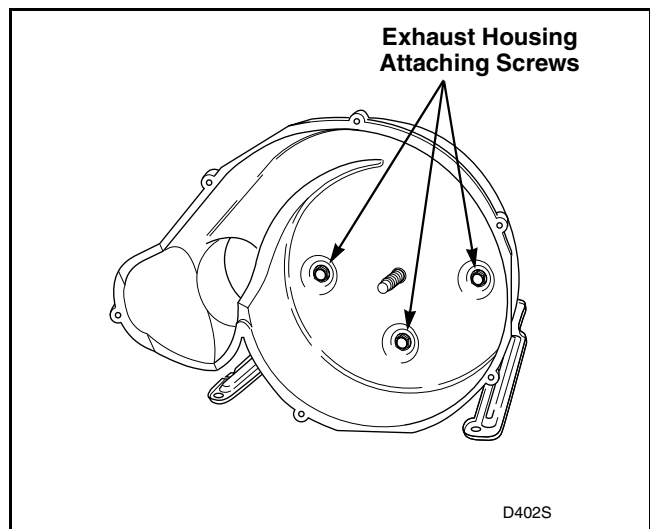

Figure 21
- d. Remove three hex head screws and washers which hold the exhaust housing to motor mounting bracket. Refer to *Figure 21*.
- d. Remove the three screws and washers which hold the exhaust housing to the motor mounting bracket. Refer to *Figure 21*.